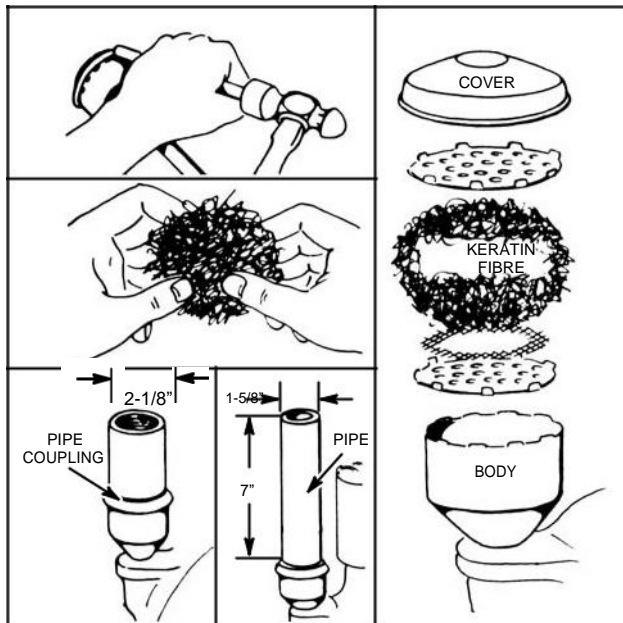
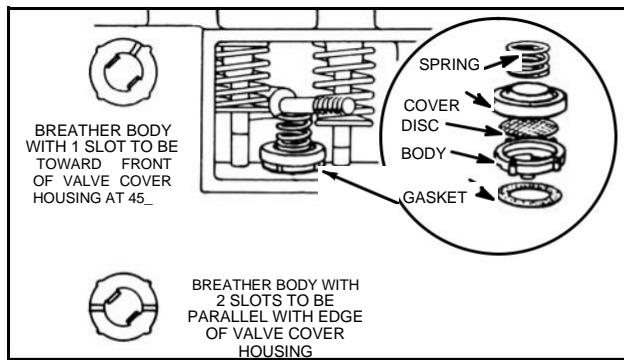

Fig. 172 – OUTSIDE BREATHERS
Fig. 174 - BREATHER VALVE
The purpose of the breather is to relieve crankcase pressure and it is important that they be clean to assure proper operation. Some breathers are located inside the valve chamber, Fig. 174. Others are either pressed or screwed into the crankcase, Fig. 172.
with Keratin Fibre, Part #27115 (NLA). For breathers with 2-1/8" dia. body, replace moss with Keratin Fibre, Part #27116 (NLA). Pull Fibre apart enough to remove lumps and prevent it from packing too tightly. Reassemble fibre and retainers as shown in Fig. 172.
Remove and reassemble the parts in the sequence shown in Fig. 174. If the body has two grooves on the under side, the groove should be parallel to the face of the valve chamber. If one (1) groove, the groove should point toward the front of valve cover housing at an angle of 45°. If the body has no groove, it can be assembled either way. The spray shield should be assembled about 1/16" from the face of the valve chamber and as close to the bottom of the chamber as the hole in the shield will allow.